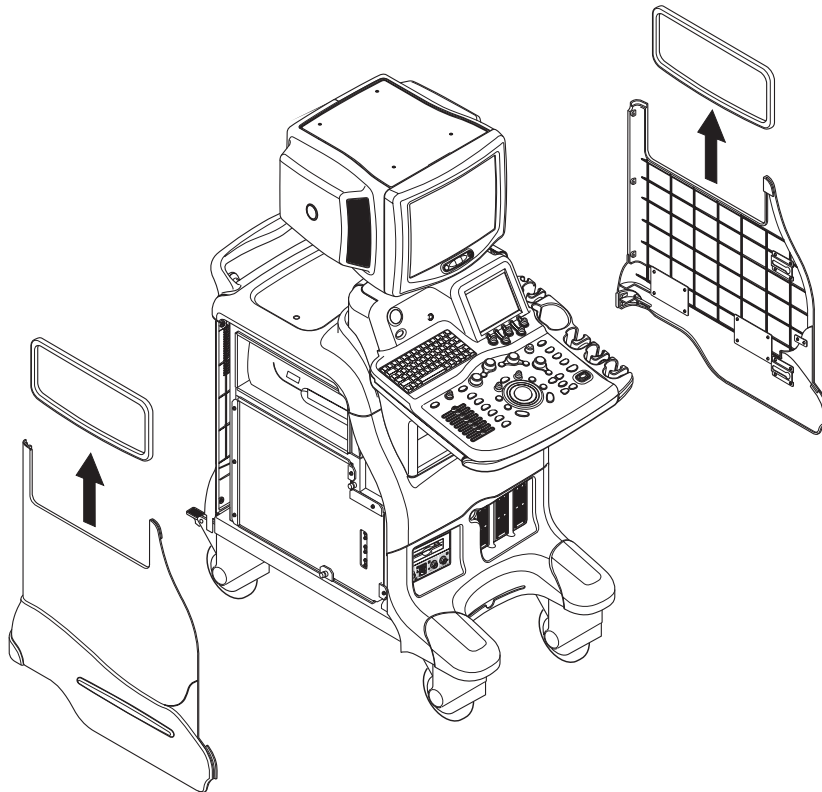

Figure 8-69 Removing the Side Caps
- 4.) Pull the Side Fringe upward from the Right Cover. Refer to Figure 8-69.